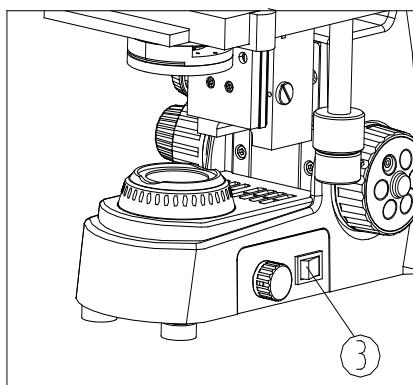

Fig. 2
5. For safety, make sure the power switch (3) is at "O" (off) and power it off before replacing the LED bulb, and wait until the bulb and base cool down completely (see Fig. 2).